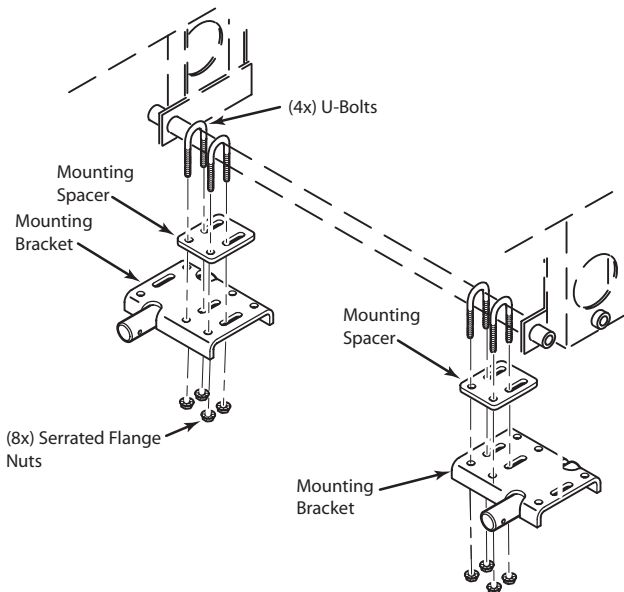

FIGURE 3-3
3. Attach the mounting brackets to the cross bar between the wheel motor brackets using (4) u-bolts and (8) serrated flange nuts. See Figure 3-3. Do not tighten the hardware.
4. The edge of the mounting bracket should be under the wheel motor mounting plate for proper installation. See Figure 3-3.